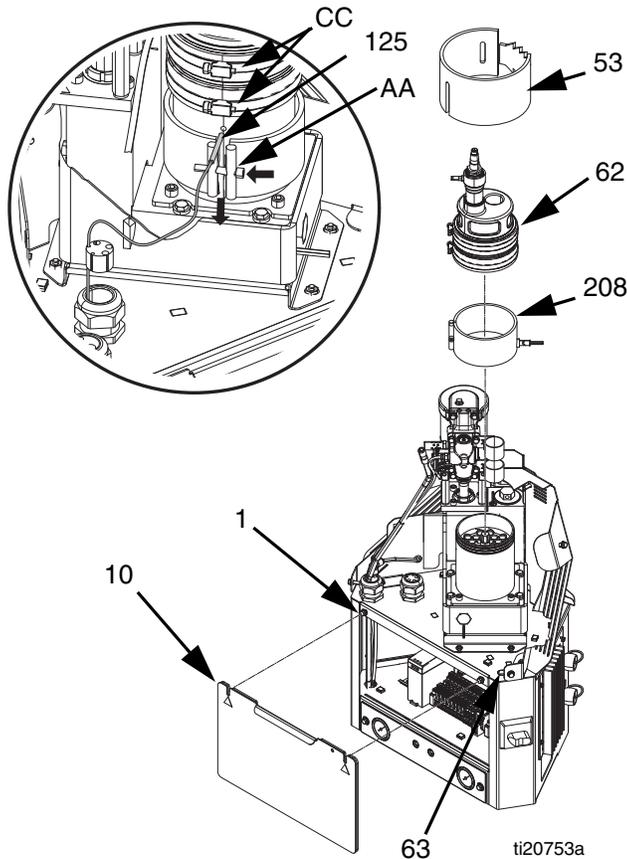
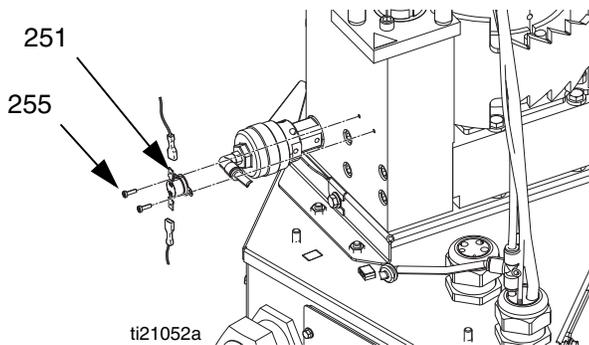

FIG. 36
FIG. 38
6. Remove screws (8) then remove electrical enclosure front access door (10).
7. Remove the air tube (36) from the relief valve (245). Pull the air tube from the metal shroud (27).
8. Remove nuts (3) on the back metal shroud (27) then remove shroud.
9. Loosen hose clamp on air motor bracket (528) then remove funnel (61).
10. Remove wire connectors from the over-temperature switch (251).
11. Remove insulators (52, 53) from the melter assembly (5).
12. Disconnect the fill sensor cable from the fill sensor (20).
14. Remove the air tube from the fill cap (62).
15. Remove the air tube from the air motor (218).
16. Loosen screw (AA) then remove sensor (125). See FIG. 36 on page 60.
17. Remove electrical enclosure front access door (10).
18. Remove all heater wires from the following terminals. Pull wires up through the rubber grommet on the top of the electrical enclosure (1). See FIG. 36 on page 60 for references.
- Use 4 bolts (259) to secure melter assembly to melter base (257).
- Use four nuts (3) to secure melter assembly to system.
- Group the 4 sets of heater wires together and run them through the grommet on the top of the electrical enclosure (1). Connect wires as noted below. See FIG. 36 on page 60 for references.
- Connect air tube to air motor (218).
- Connect air tube to fill cap (62).
- Connect fill sensor cable to the fill sensor (20).
- Install funnel (61) into air motor bracket (528) then tighten clamp.
- Install temperature sensor (125) into melter then tighten screw (AA) on band heater. See FIG. 36 on page 60.
- Install insulators (52, 53) onto the melter assembly (5).
- Connect wire connectors to the over-temperature switch (251). See FIG. 38 on page 62.
- Use nuts (3) to install metal shroud (27).
- Pull the relief valve air tube (36) through the metal housing then attach air tube to relief valve (245).
- Install front access door (10) onto electrical enclosure (1).
- Reconnect all heated hoses to the melter outlet manifold (203).
Disassembly (see FIG. 36):
Reassembly (see FIG. 36):
6. Install electrical enclosure access door (10). See FIG. 36.
7. Install fabric melter insulator (53).